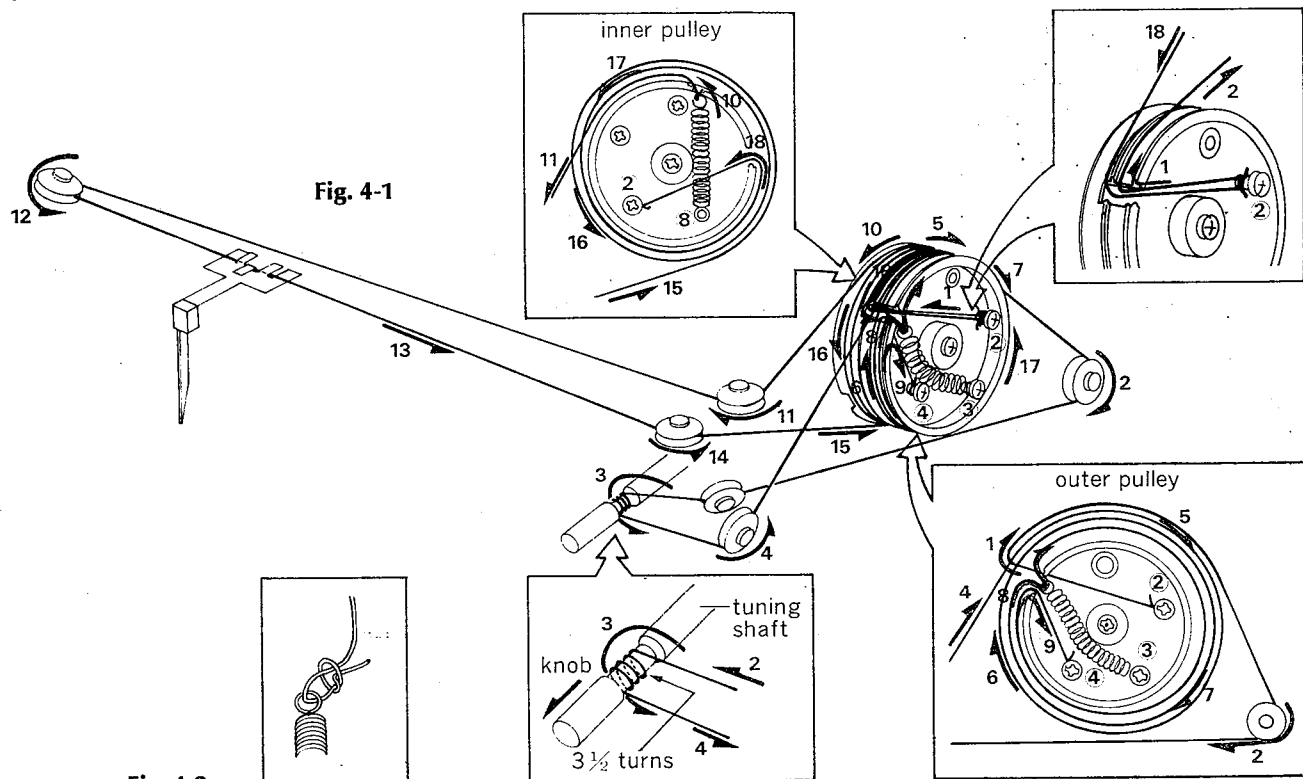

Fig. 4-2
- 1) Open the variable capacitor completely (minimum capacitance) and tie cord to the dial spring as Fig. 4-2.
- 2) Fix the dial spring with screw to number ⑧ on variable capacitor side of the dial pulley.
5) After 18, tie cord to number ② screw.